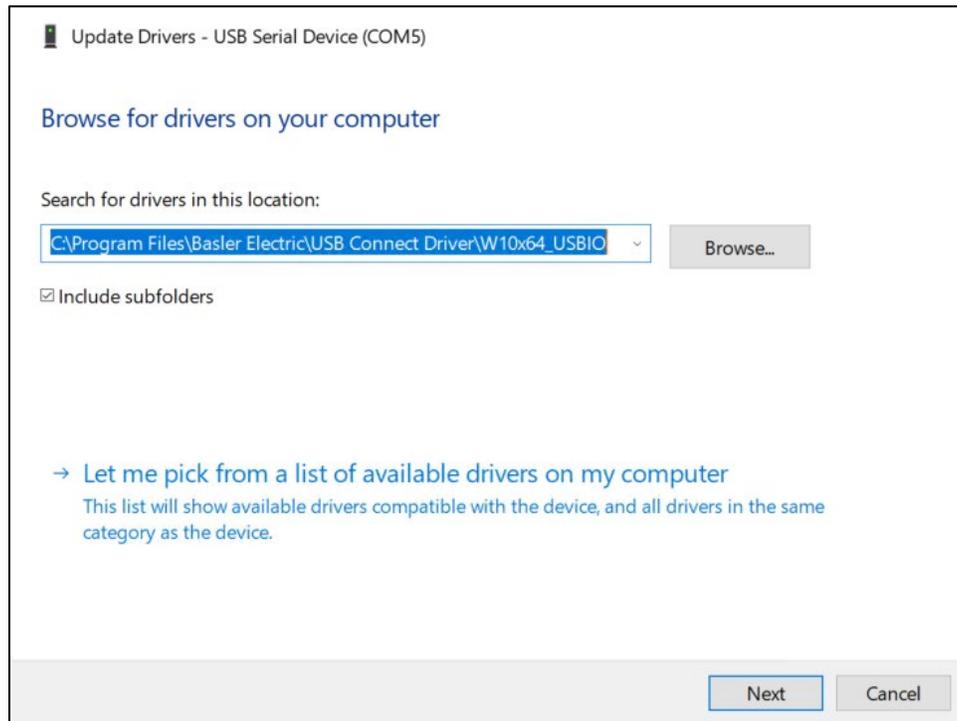

Figure 62-7. Update Drivers
Step 6. Click Browse and navigate to C:\Program Files\Basler Electric\USB Device Drivers\W10x64_USBIO. If the value in Step 3 contained **MI_02**, select W10x62_USBCOM instead. Click Next. See Figure 62-7.